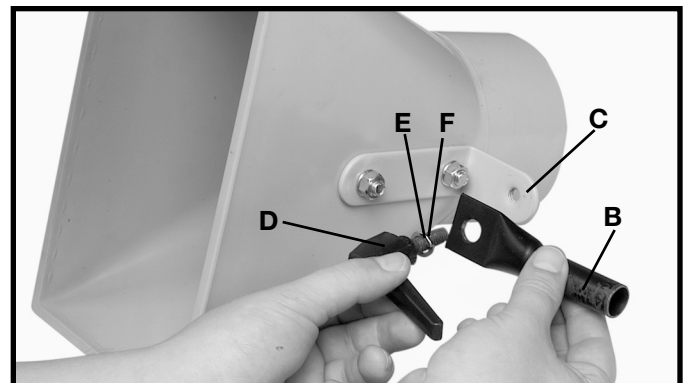

Fig. 13
7. Attach the upper support bracket (B) Fig. 13 to the intake support angle brace (C) with the adjustable locking lever (D). **NOTE: PLACE A M8.4 FLAT WASHER (E) AND A 5/16" LOCKWASHER (F) FIG. 13, ONTO LOCKING LEVER SCREW BEFORE ATTACHING TO THE INTAKE SUPPORT ANGLE BRACE.**